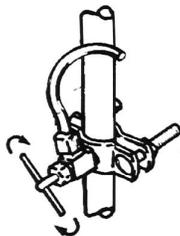

Figure 1
3. Shut off water supply to the ice maker by turning the valve in the water line clockwise. See Figure 1.